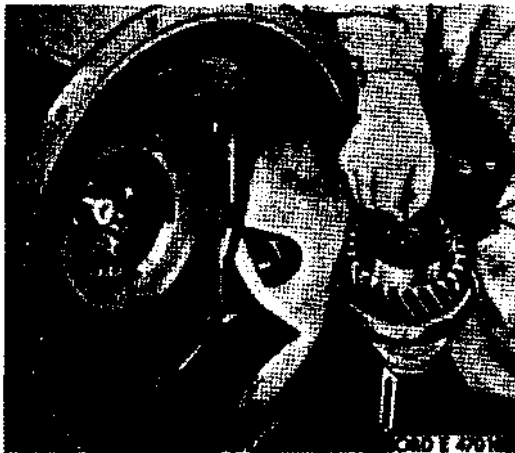

Figure 262. Assembling pilot bearing rollers into input shaft pocket
(4) Input shaft assembly.
- (a) Place a generous amount of grease (general purpose lubricating grease (CG) into pocket of input shaft (fig. 262). Position pilot bearing rollers (14 required) into pocket of input shaft, the last roller being placed into position endwise due to the construction of the bearing.
- (b) Position input shaft (fig. 262) in transmission case front end.